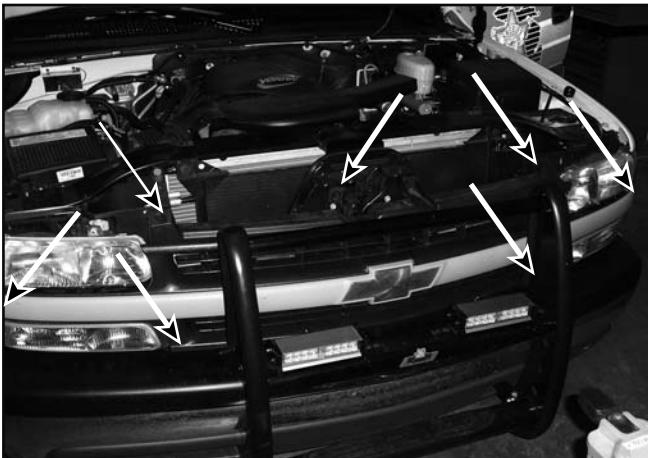

FIGURE 2.
2. Remove fascia to expose mounting location of speaker. 4 phillips drive locking tabs, 2 snap in tabs and 1-10mm bolt will release grille fascia from vehicle. Locations of fasteners shown in figure 2.